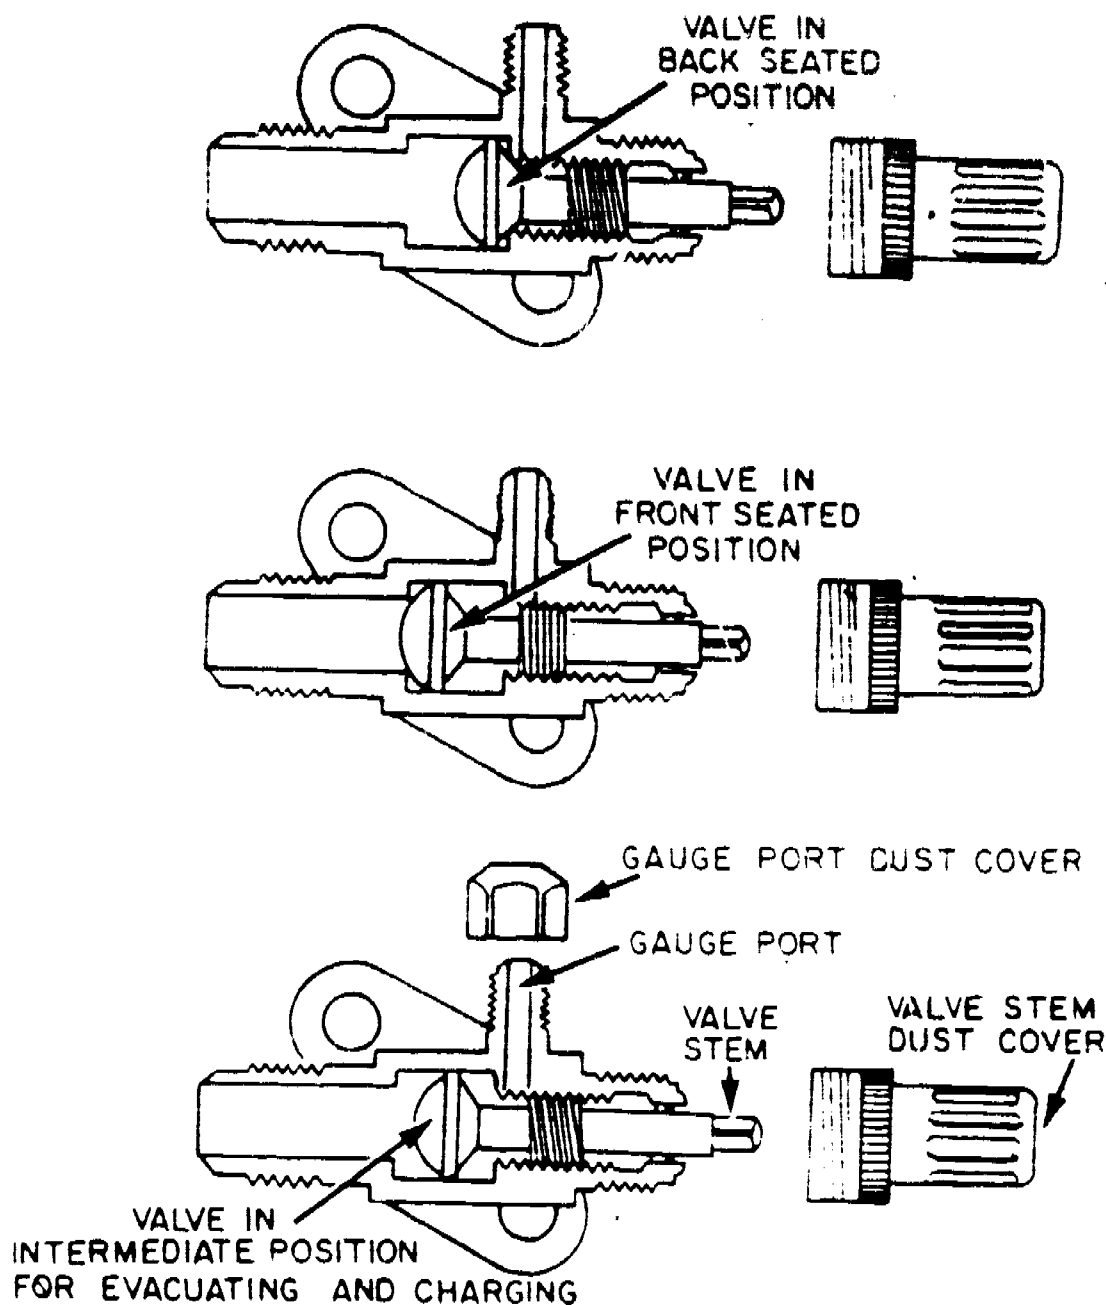

Figure 81. Operating Positions of Valve Stem -- Hand-Operated Valve.
2. Under the caps there are valve stems. Using a serviceman's refrigeration ratchet, wind the valve stems out (counterclockwise) until they back seat (see figure 81). Back seating the valve stem is usually necessary only when installing a new compressor.
8. Wind the stem of the suction valve on the compressor in a clockwise motion until the valve is front seated. The valve stem should be all the way in, see figure 81.
13. Open the suction valve located on the compressor by winding the valve stem out (counterclockwise) five full turns. The valve stem will be about halfway out, see figure 81. The low pressure gauge should read below zero. If it does not read below zero, it indicates one of three things: